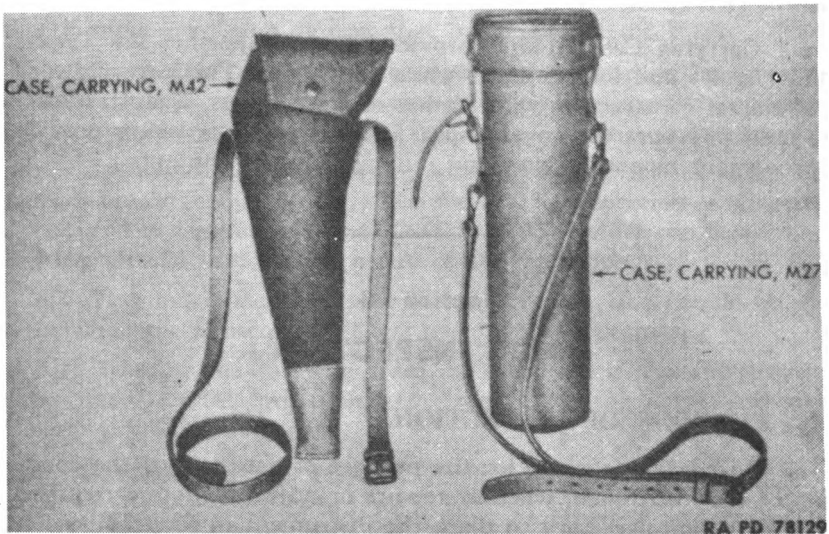

Figure 7—Carrying Case M27 for Observation Telescope M49 and Carrying Case M42 for Tripod M15
a. Carrying Case M27 (fig. 7) is used for transporting Observation Telescope M49 and affords protection for the telescope when the latter is not in use. It is an all-leather case, lined with a felt-like padding. It measures approximately 4 inches across and is 15 inches long. The Telescope M49 fits into the case with the front end down, making
a. Carrying Case M42 is provided for transporting the Tripod M15 (fig. 7) and for storing it when not in use. This carrying case is of canvas construction with leather reinforcements. Snap fasteners are used to secure the cover flaps. Leather shoulder straps provide a convenient means for carrying the case and its contents.